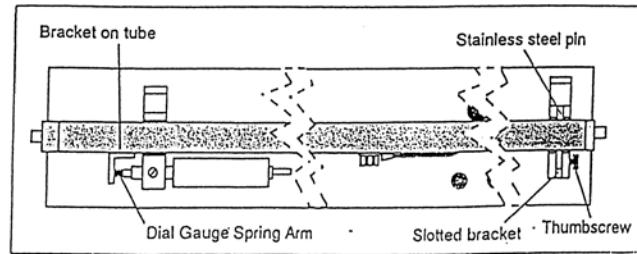

Figure 2 Equipment Setup (Top View)
- 2) Mount the copper tube in the expansion base as shown in Figure 2. The stainless steel pin on the tube fits into the slot on the slotted mounting block and the bracket on the tube presses against the spring arm of the dial gauge.
axis of the tube, as shown in Figure 2, so there is maximum contact between the lug and the tube.